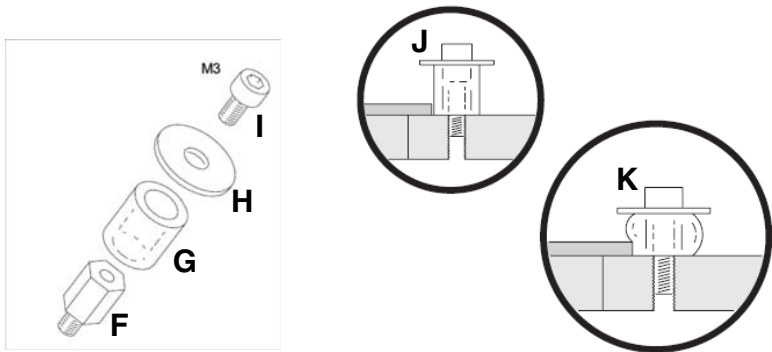

**Figure 2: Lens removal**
1. See Figure 2. Loosen, but do not remove, the screws in the bottom lens bracket (C) to release the pressure in the rubber washers. Remove the top lens bracket (D) and lift the existing lens out of the luminaire.
2. Place the new lens in the bottom lens bracket (C) flat against the lens module plate (E) oriented as follows:
3. Replace the top lens bracket (D). Tighten all 4 lens bracket screws enough to squeeze the rubber washers out against the lens, but do not overtighten! The rubber washers must be squeezed out only enough to hold the lens with gentle pressure. In the case of the beamshaper lens, take extra care and ensure that the washers exert very light pressure only.
1. Remove as shown in Figure 2 any lens installed on the lens module plate.